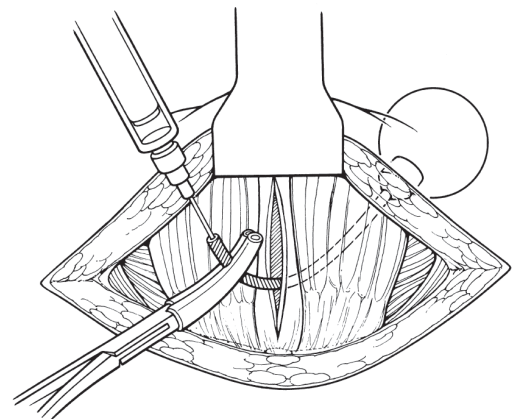

Figure 4-9. Fill PRB and Clamp Tubing
16. Clamp (one notch only) the tubing approximately 3 cm from the end with a tubing-shod hemostat. (Figure 4-9)